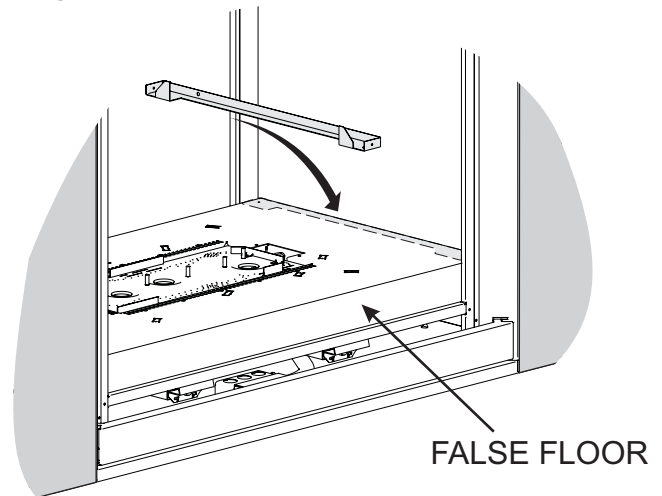

Figure 2
NOTICE: The fiber or porcelain panels sit in front (NOT behind) of the brick brackets shown in **Figures 2 and 3**.
3. Set the brick bracket against the firebox wall as shown in **Figure 2**.